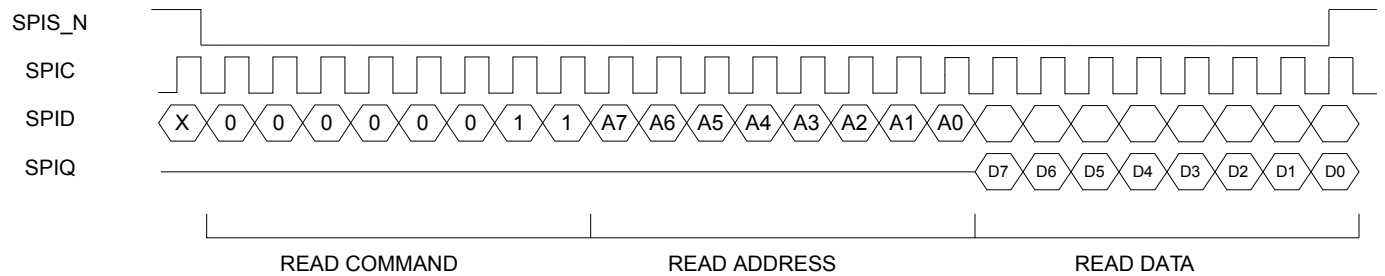
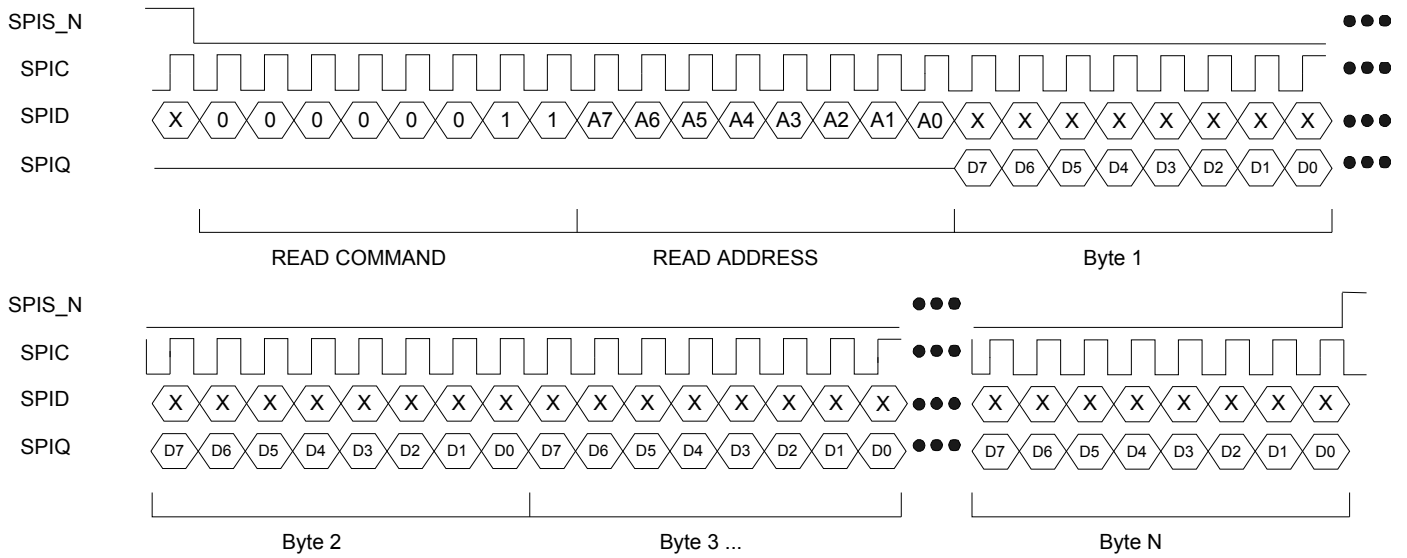

Figure 10. SPI Read Data Cycle
Figure 12. SPI Multiple Read
If a 2-wire EEPROM exists, then the KSZ8895MQ/RQ/FMQ can perform more advanced features like broadcast storm protection and rate control. The EEPROM should have the entire valid configuration data from Register 0 to Register 255 defined in the "Memory Map," except the chipID=0 in the register1 and the status registers. After reset, the KSZ8895MQ/RQ/FMQ will start to read all 255 registers sequentially from the EEPROM. The configuration access time (t_{prgm}) is less than 30ms, as shown in Figure 12.
5. Registers can be read and configuration can be verified with a typical SPI read data cycle as shown in Figure 10 or a multiple read as shown in Figure 12. Note that read data is registered out of SPIQ on the falling edge of SPIC.